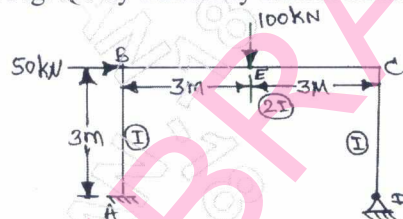

Fig. Q6
- 6 Analyse the frame shown in Fig. Q6 by flexibility matrix method. Draw BMD. (20 Marks)